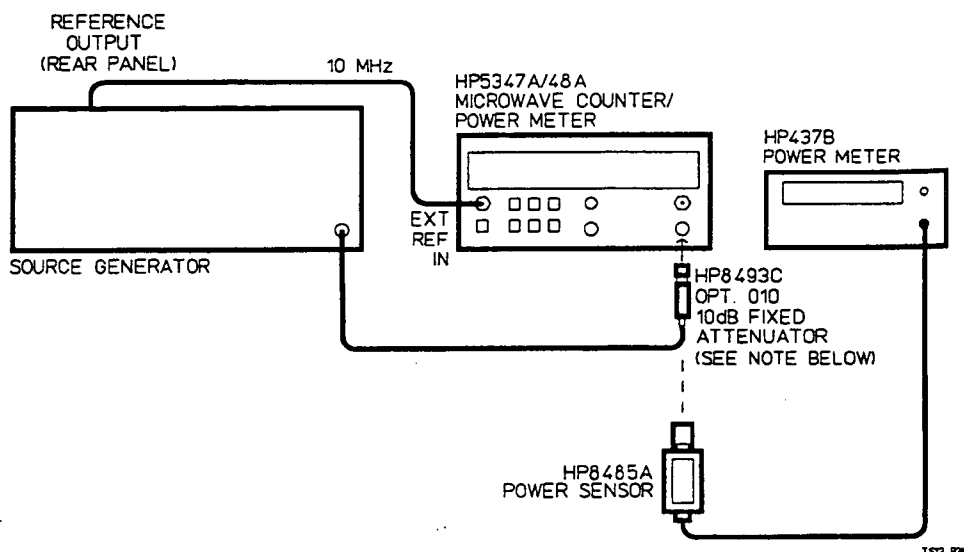
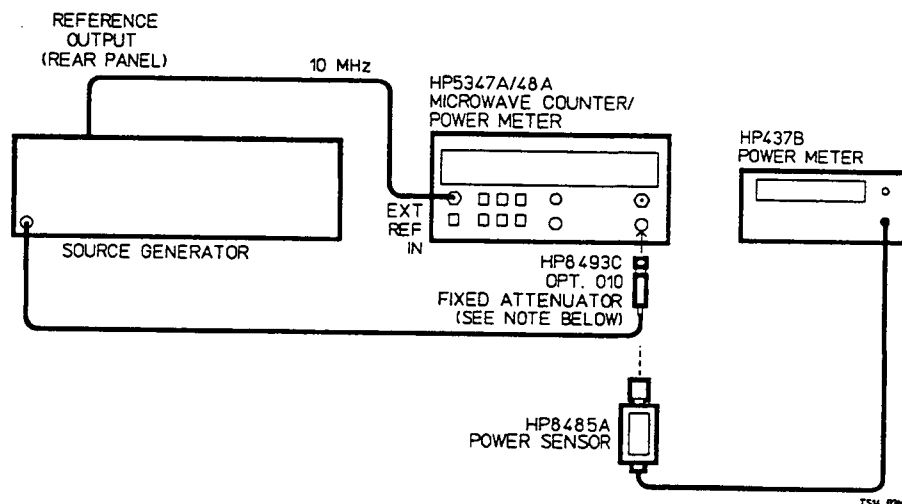

Figure 4-7. INPUT 1, 500 MHz-1 GHz Test Setup
Figure 4-8. INPUT 1, 2.5 GHz-20 GHz [26.5 GHz] Test Setup
The following test is in two parts, *Figure 4-7* is the test setup for Part I (500 MHz to 1 GHz), and *Figure 4-8* is the test setup for Part II (2.5 GHz to 20 GHz [26.5 GHz for HP 5348A]).
Description: In Part I, the HP 5347A/48A is set to the 500 MHz - 20 GHz [26.5 GHz for HP 5348A] range and the appropriate input signal is applied to INPUT 1. The source generator is set to selected frequencies up to 1 GHz, and the actual sensitivity of the HP 5347A/48A is measured. In Part II, the test setup is changed to *Figure 4-8* to measure sensitivity in the 2.5 GHz-20 GHz [26.5 GHz for HP 5348A] range. The source generator is set to the appropriate test level, and the actual sensitivity is measured at selected frequencies up to 20 GHz [26.5 GHz for HP 5348A].
Part I: 1. Connect the equipment as shown in *Figure 4-7*.
1. Connect the equipment as shown in *Figure 4-8*.